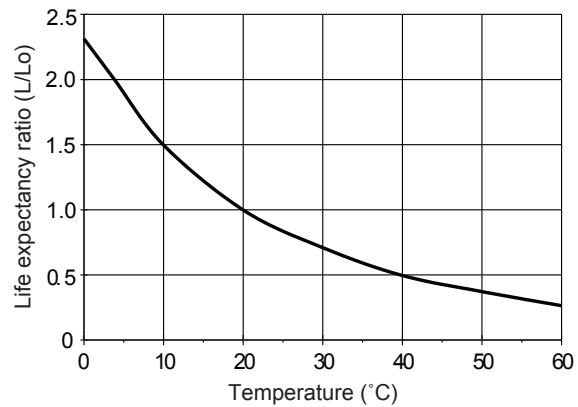

Fig. 9b - Relationship of life expectancy vs. temperature (L₀ = life at 20°C)
Figure 9b shows the relationship between life expectancy and ambient temperature. The Y-axis indicates the ratio of life expectancy at a given temperature (L) compared to life expectancy at 20°C (L₀). A correlation exists between the sensor's life time and its storage temperature—the life time becomes shorter as the storage temperature increases.